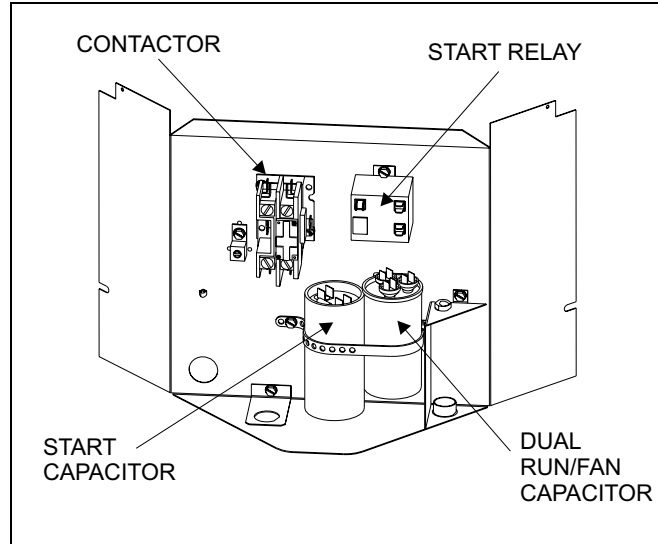

FIGURE 9
1. Use the two pilot holes to attach start relay. See Figure 9.